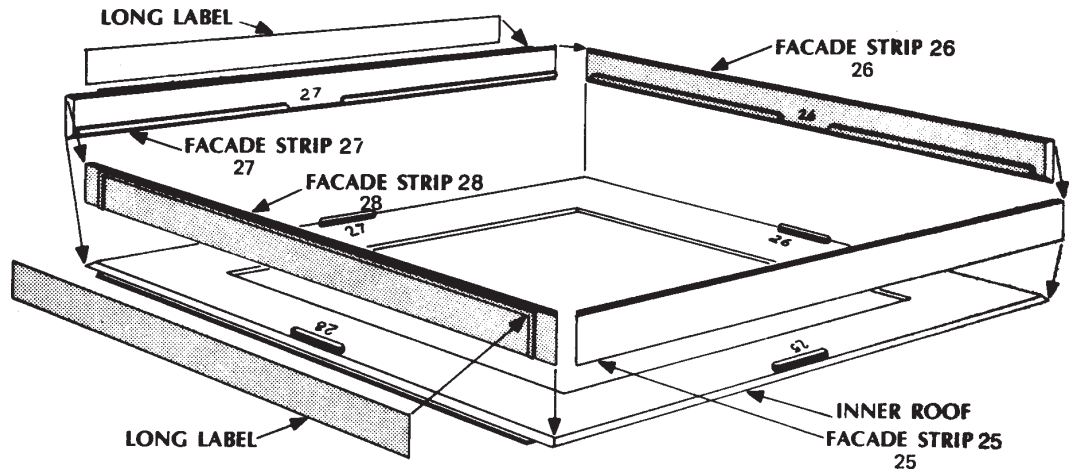

fig. 10
10. Cement the FACADE STRIPS (25-28) to the INNER ROOF. Peel off and stick the two LONG LABELS to the facade strips (27 & 28). (Fig. 10)